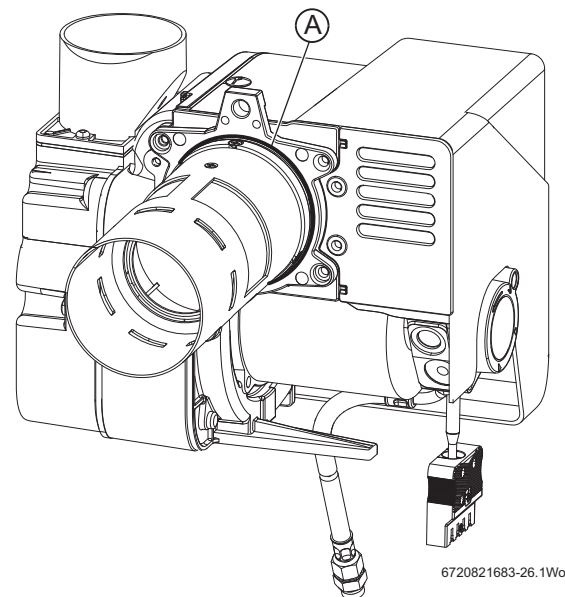

Fig. 45 12/18 Burner O-ring seal shown
- ▶ Always check that the O-ring seal (Fig. 45 item A) is in good condition before fitting the burner. Replace the O-ring seal if defective.